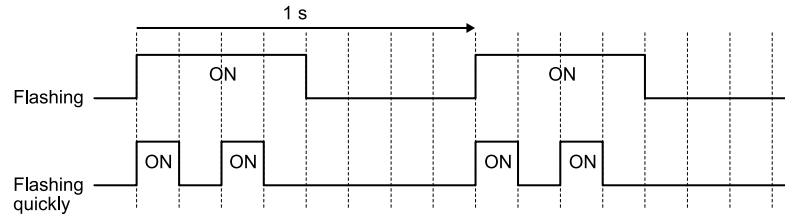

Figure 3.6 LED Flashing Statuses
*1 Refer to Figure 3.6 for the difference between “flashing” and “flashing quickly”.